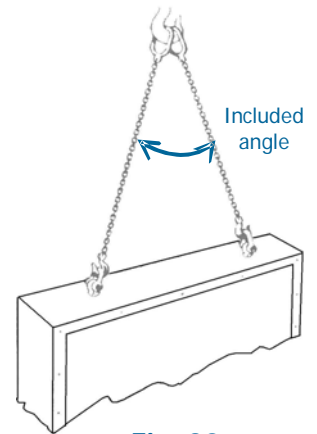

Fig. 20
6. Two Single Legs in Straight Lift (see Fig. 20)